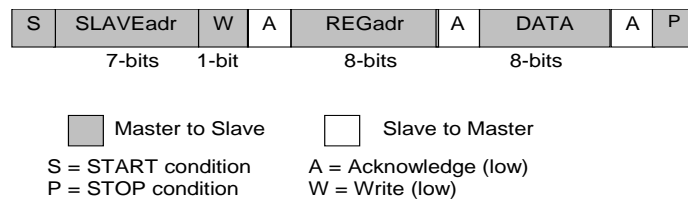
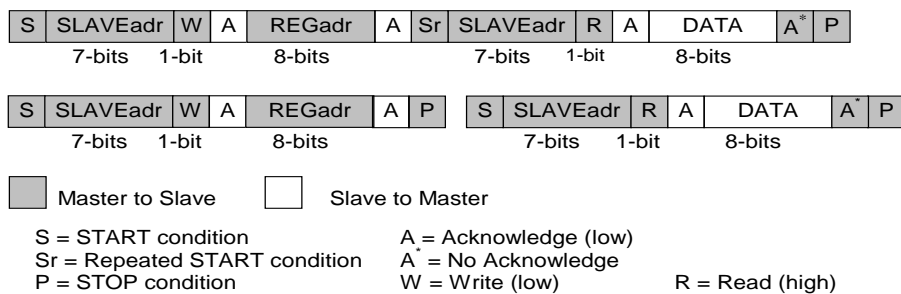

Figure 22: I²C Byte Write (SDA Line)
Figure 23: I²C Byte Read (SDA Line) Examples
The I²C bus is monitored for a valid slave address whenever the interface is enabled. It responds immediately when it receives its own slave address. The acknowledge is done by pulling the SDA line low during the following clock cycle (white blocks marked with A in Figure 22 and Figure 23).
The protocol for a register write from master to slave consists of a START condition, a slave address with read/write bit, and the eight-bit register address followed by eight bits of data, terminated by a STOP condition. DA9122 responds to all bytes with acknowledge (A), see Figure 22.
When the host reads data from a register it first has to write to DA9122 with the target register address and then read from DA9122 with a repeated START, or alternatively a second START condition. After receiving the data, the host sends no acknowledge (A*) and terminates the transmission with a STOP condition, see Figure 23.